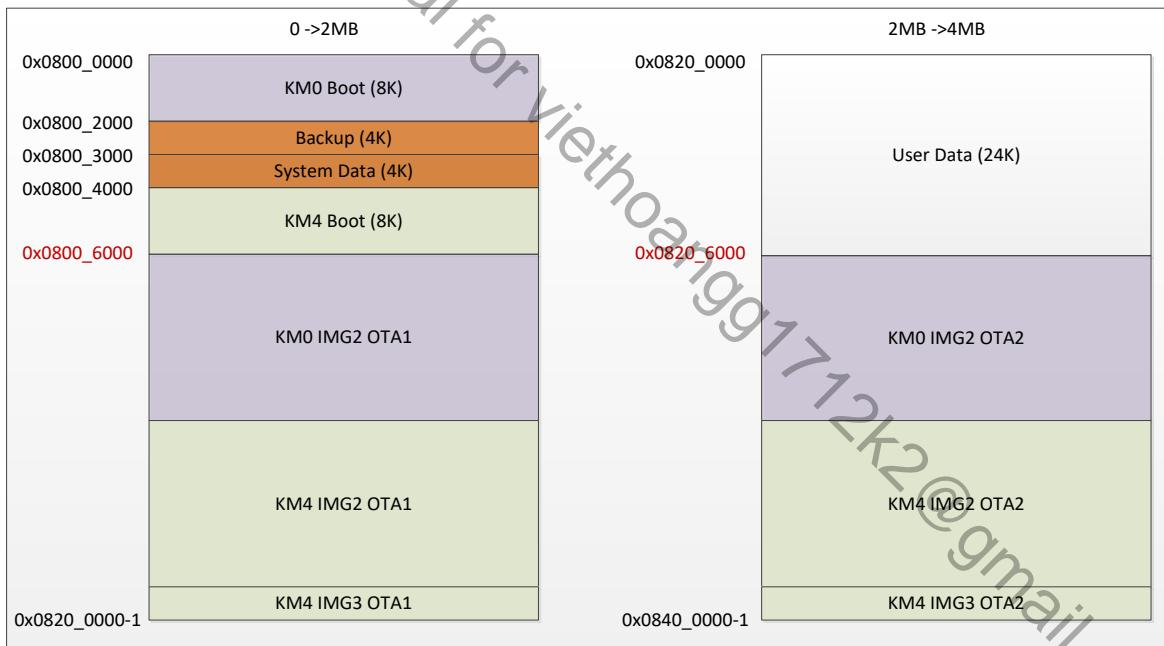

Fig 9-4 4M Flash program layout example
For 4M Flash, an example of Flash layout is illustrated in Fig 9-4. In this example, 2048K Flash size can be used for KM0 & KM2 image, and you can modify the layout according to your actual conditions. Because bootloader will be called by ROM code, the address of bootloader cannot be changed. Other addresses except bootloader can all be changed by user, but before you change these addresses, make sure that you are familiar with Ameba-D system and SDK.
- (1) Modify **OTA_Region** in rtl8721d_bootcfg.h, change OTA2 region start address according to your actual Flash layout. When using 4M Flash program layout example as shown in Fig 9-4, OTA region should be modified as below:
- (2) Modify OTA address definition in rtl8721d_ota.h, redefine **LS_IMG2_OTA2_ADDR** macro according to your actual Flash layout. When using 4M Flash program layout example as shown in Fig 9-4, OTA address should be modified as below:
- (1) For BT FTL start address, re-define **ftl_phy_page_start_addr** variable in rtl8721dhp_intfcfg.c, note that SPI FLASH address base 0x0800_0000 is subtracted when calculating **ftl_phy_page_start_addr** variable, and **ftl_phy_page** will consume 3*4=12KB Flash starting from **ftl_phy_page_start_addr**. When using 4M Flash program layout example as shown in Fig 9-4, BT FTL start address should be modified as below:
- (2) For Wi-Fi fast connect profile address, redefine **FAST_RECONNECT_DATA** macro in platform_opts.h, and SPI FLASH address base 0x0800_0000 is subtracted when calculating **FAST_RECONNECT_DATA** macro. Note that Wi-Fi fast connect profile address should not recover the 12KB Flash starting from **ftl_phy_page_start_addr**, as this region is reserved for BT FTL. When using 4M Flash program layout example as shown in Fig 9-4, Wi-Fi fast connect profile address should be set to 0x202000+0x3000=0x205000.